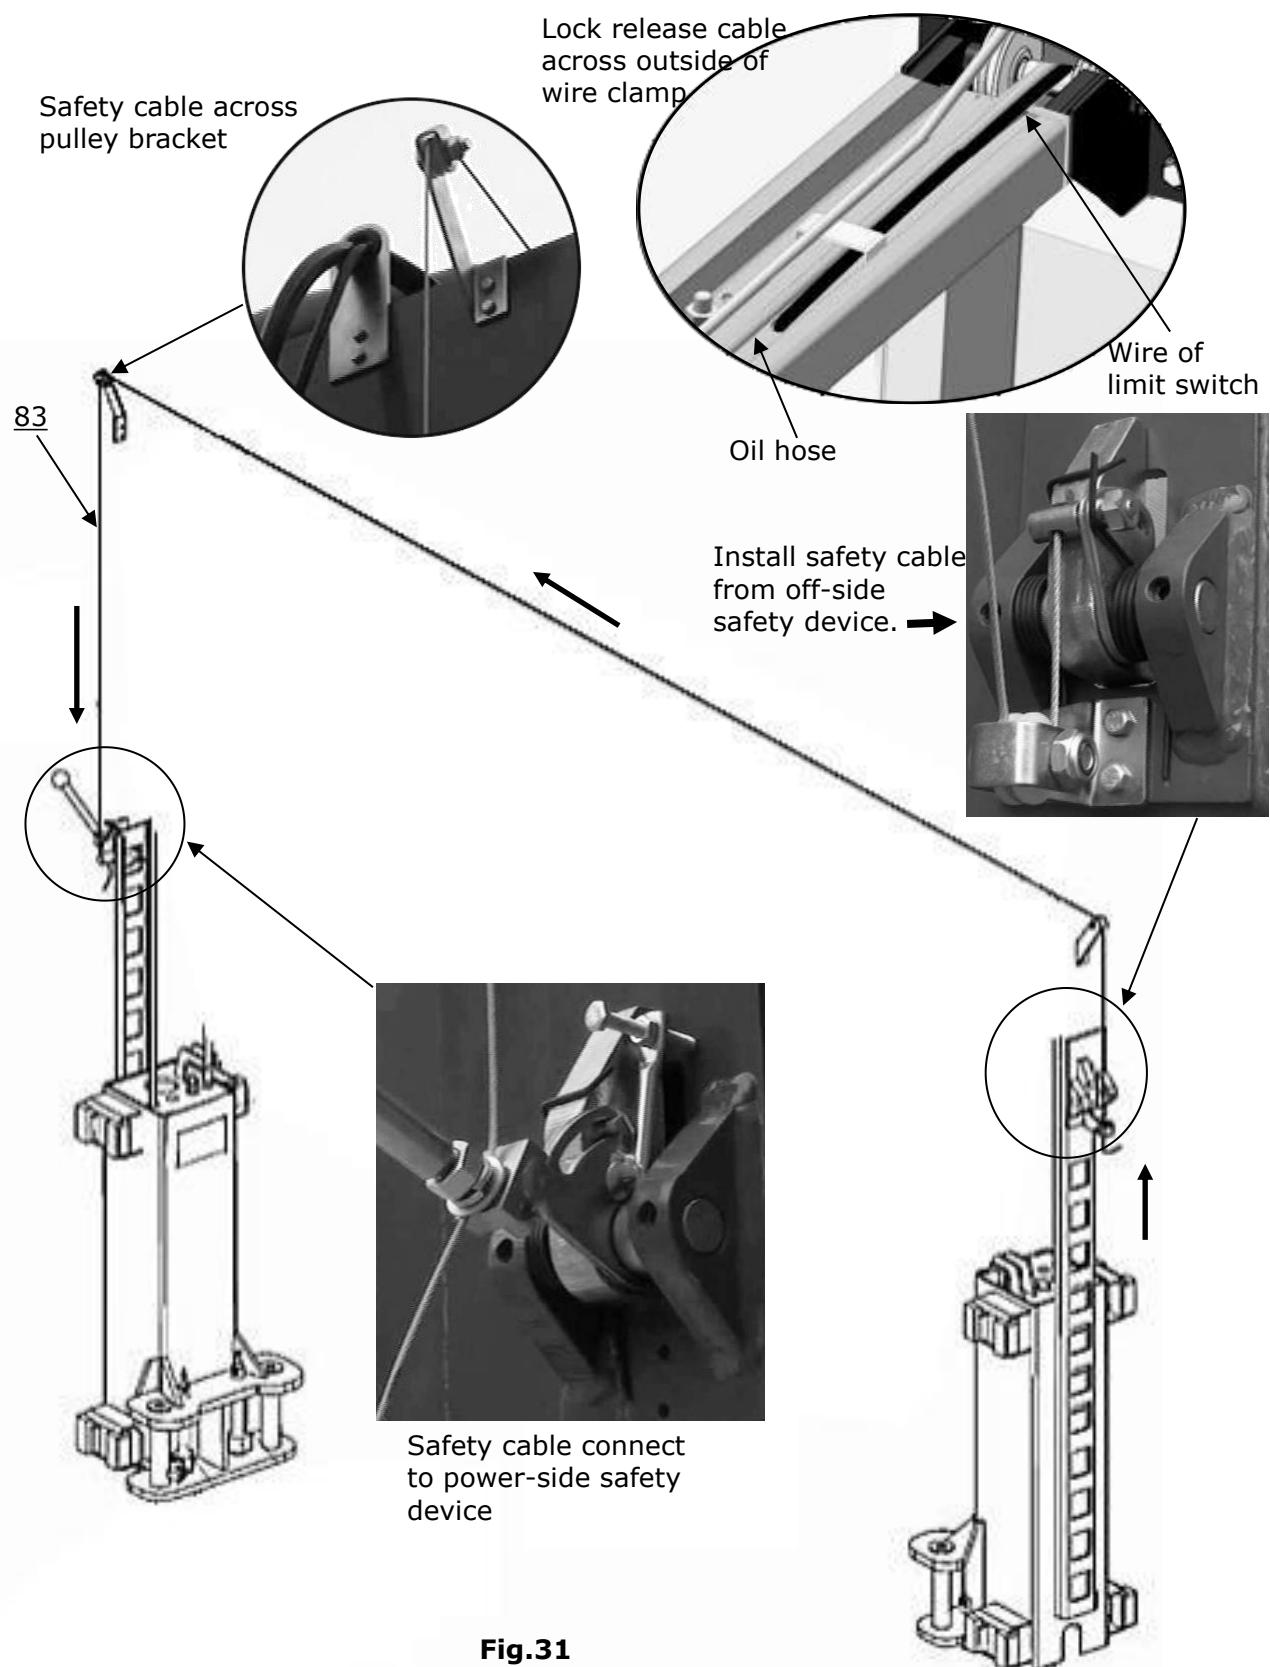

Fig.31
N. Install safety cable (See Fig. 31)